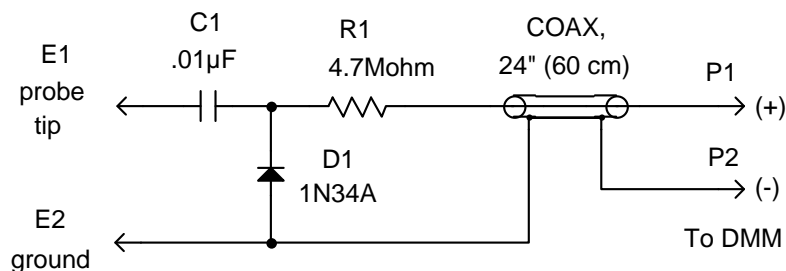

Figure 1
Your K2 kit includes a complete RF probe, including the PC board, coax, and connectors. **The switch spacing tool, which you used in assembling the Front Panel, doubles as the PC board for the probe.** The RF probe (Figure 1) converts RF signals to DC so they can be measured using a DMM. The DC readings on your DMM will be approximately equal to the signal voltage in V_{rms} (root-mean-square).
4. If you don't have an RF probe, you can build the one from Figure 1. **Note:** do not use the RF probe to directly measure the transmitter's power output unless you have the power set for 2 W or less. The 1N34A diode in the RF probe may be damaged at higher power levels.